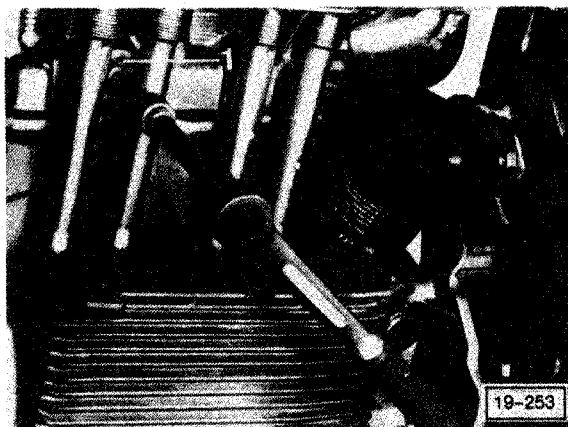

Fig. 1 Coolant system, draining
- drain coolant at drain plugs (Fig. 1)